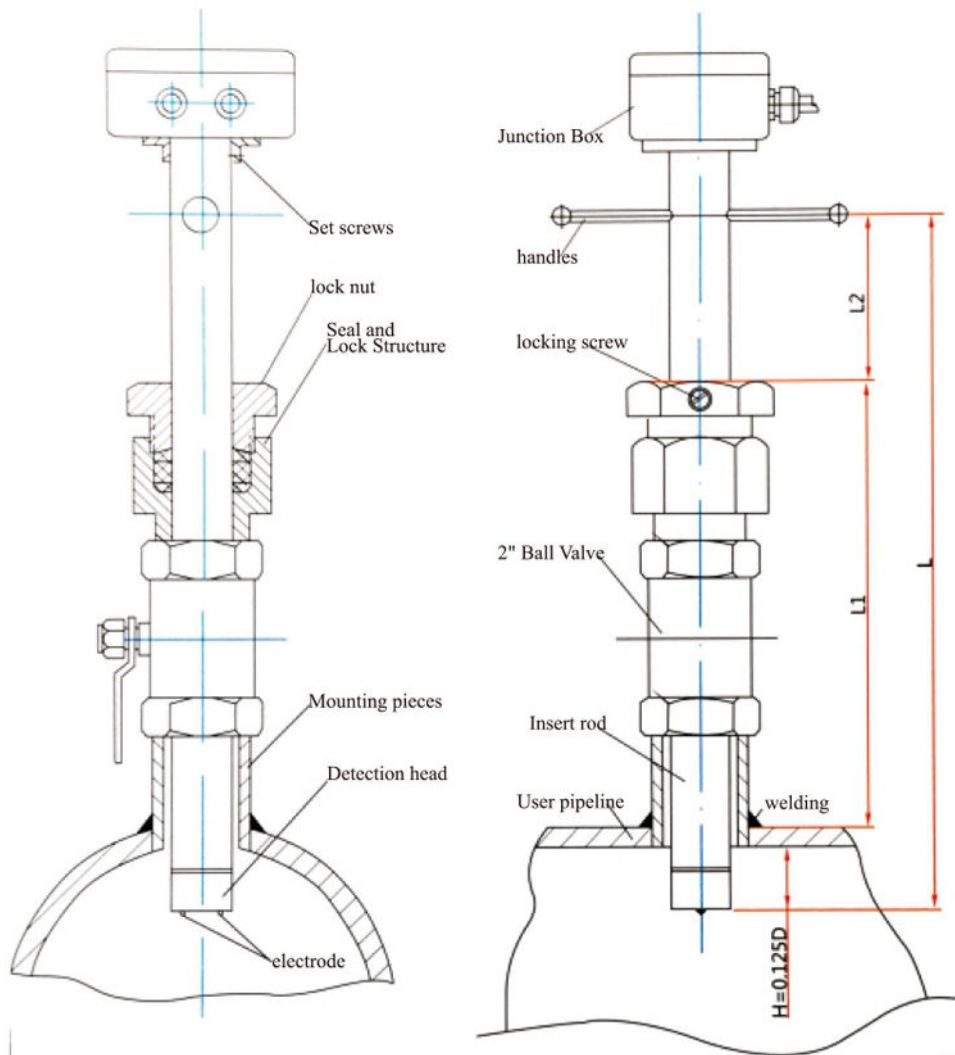

Figure 5 Structural diagram of insertion type with ball valve
3.4 Insertion Type Electromagnetic Section, check Figure 5